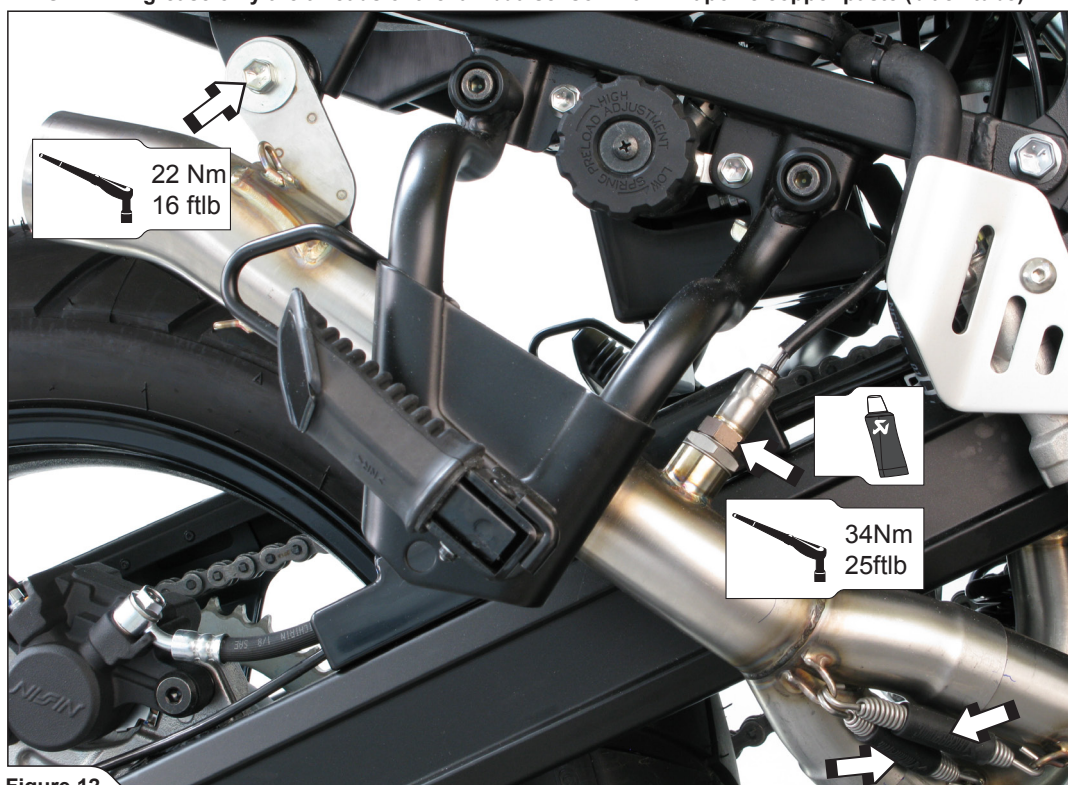

Figure 12
- Slide the link pipe onto the front pipes and attach the springs. Tighten the lambda sensor and link pipe's bracket onto the sub frame, using stock bolt, washers and nut (Figure 12).